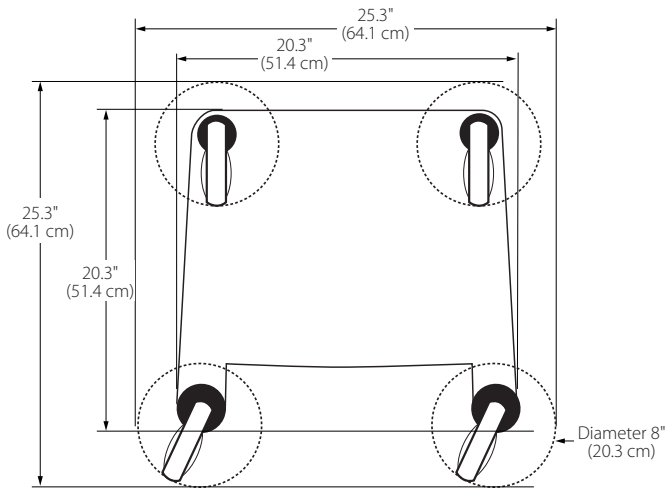

Figure 5
- Footprint: 20.3" (51.4 cm) W x 20.3" (51.4 cm) L (**Figure 5**)